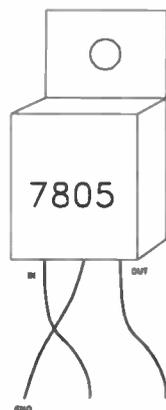

Figure 6-3. Bend the leads of the 7805 voltage regulator IC as shown.
**Step 4.** Bend the leads of a 7805 voltage regulator IC, as shown in Figure 6-3, on the next page. Bend the center (ground) lead toward the front (marked side) of the IC, and bend the outer leads toward the back of the IC.